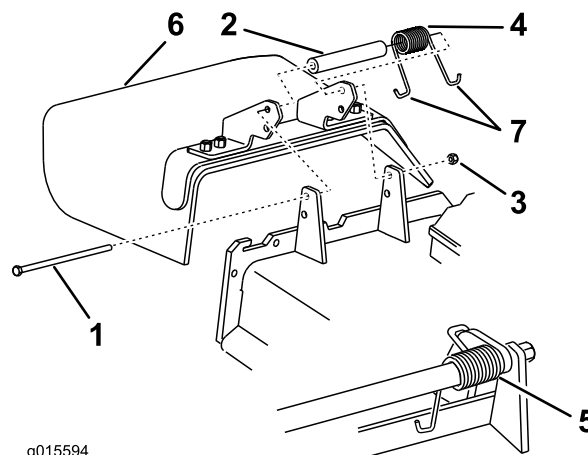

Figure 98
1. Remove the locknut, bolt, spring, and spacer holding the deflector to the pivot brackets (Figure 98). Remove damaged or worn grass deflector.
Note: Make sure that one J end of spring is installed behind the deck edge before installing the bolt as shown in Figure 98.
3. Install the bolt and nut. Place one J hook end of the spring around the grass deflector (Figure 98).